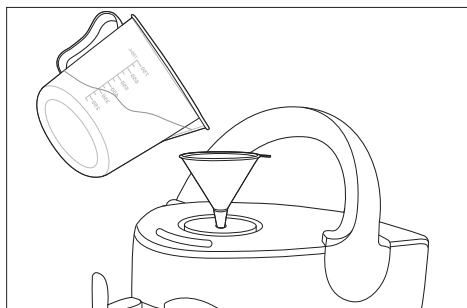

Fig. 3
3. Pour up approx. 1000 ml of water slowly using the measuring cup (18) (Fig. 3).